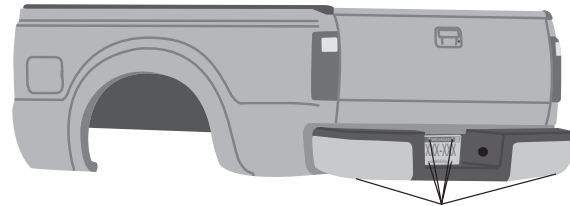

Fig. 18
5. Select a location for the Schrader valve (J), ensuring that the valve will be protected and accessible with an air hose (Fig. 18). Drill a 5/16" (8mm) hole, if necessary. Determine and cut adequate length of air line (B) to reach from the tee to the Schrader valve or from the air springs to the valve if using a dual-path installation.